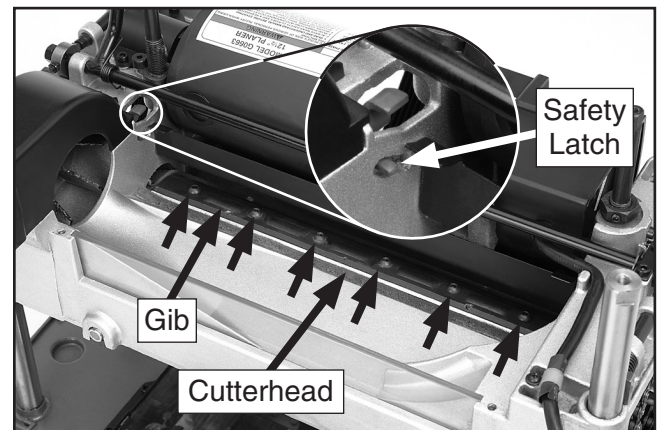

Figure 30. Exposed cutterhead.
3. Wearing heavy leather gloves, carefully turn the cutterhead towards you until the safety latch engages and the cutterhead no longer turns (**Figure 30**).
6. Depress the safety latch (shown in **Figure 30**), then carefully rotate the cutterhead towards you approximately $\frac{1}{4}$ turn. Release the safety latch and continue rotating the cutterhead until the second knife is exposed and the safety latch again engages.